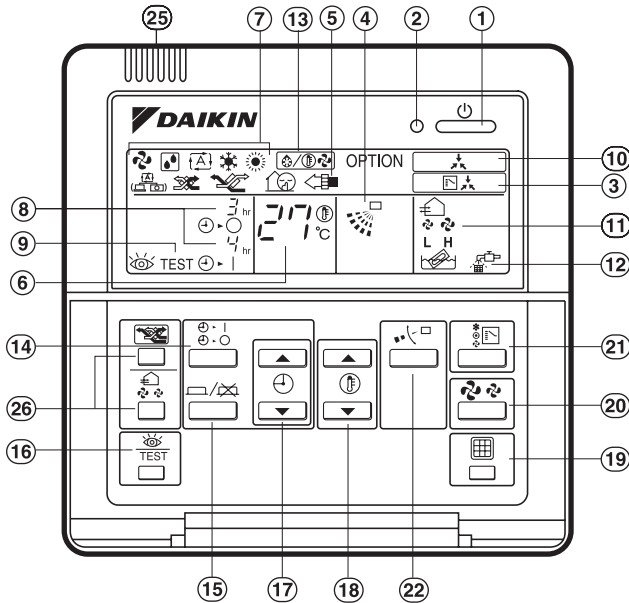

figure 2
(Refer to figure 2 and 3)**
- Figure 2 shows the remote control which is opened the cover.
- For FXS, FXM, FXL and FXN, the air flow direction adjust button (22) is not available and the display (4) shows “NOT AVAILABLE” when pressed.